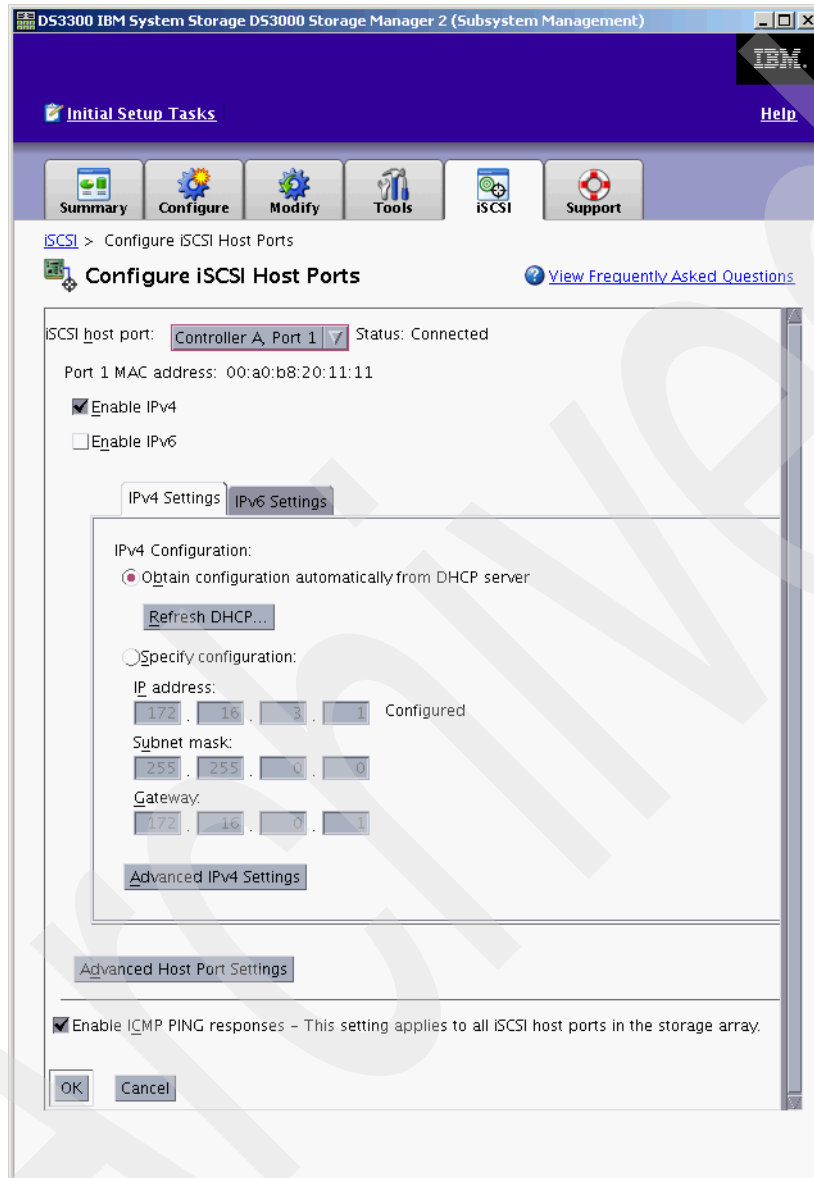

Figure 13-11 Configure iSCSI host port
1. Click **Configure iSCSI Host Ports** in the iSCSI tab. A window opens, as shown in Figure 13-11. Our example window shows an active IPv4 configuration that was assigned through DHCP.
- After configuring IPv4, IPv6, or both settings, click **Advanced Host Port Settings** (shown in Figure 13-11 on page 292). These settings apply to both the IPv4 and IPv6 settings. The TCP listening port for iSCSI and jumbo frame support can be configured here. To use a TCP port other than 3260, check **Use custom listening port** and specify the port. A custom port can be between port 49152 and 65535.
- In the Configure iSCSI Host Ports window (Figure 13-11 on page 292), you have the option to disable ping (ICMP echo) requests for all iSCSI host ports. Figure 13-16 shows this option selected. A reset of all ports is required to apply this setting.